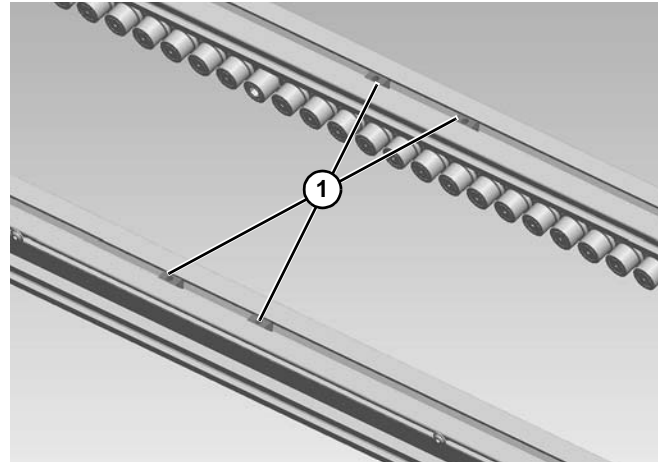

Figure 46
2. For pallet sizes 240x240 and larger, install two spring nuts (**Figure 46, item 1**) in bottom T-slot on both sides of the conveyor.